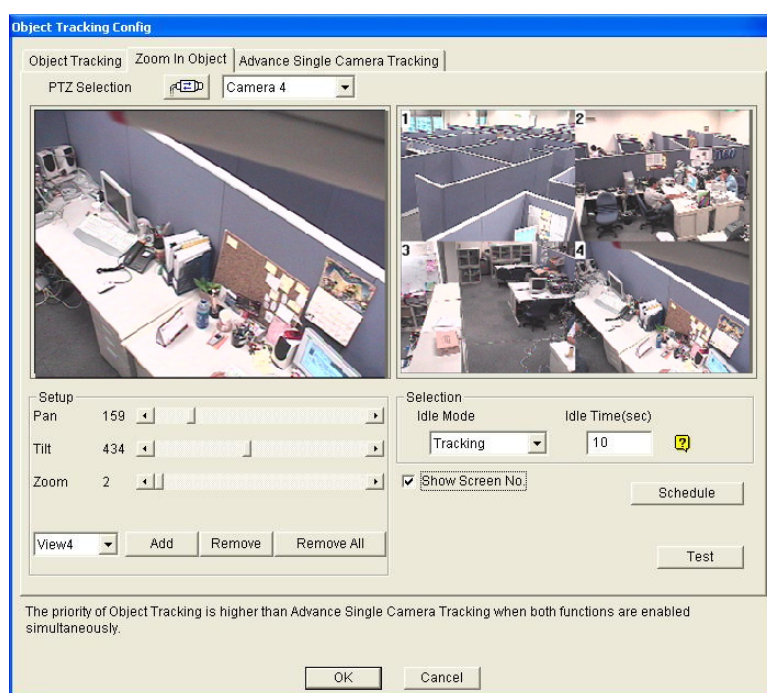

Figure 3-8
3. Choose the camera view of the PTZ. In Figure 3-8, the images of the PTZ camera show in the camera 2 view.